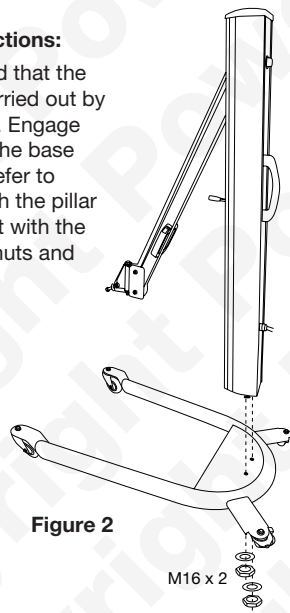

Figure 2
1. We recommend that the assembly is carried out by two operatives. Engage the brakes on the base unit castors. Refer to **Figure 2**; attach the pillar to the base unit with the two M16 x 35 nuts and washers.